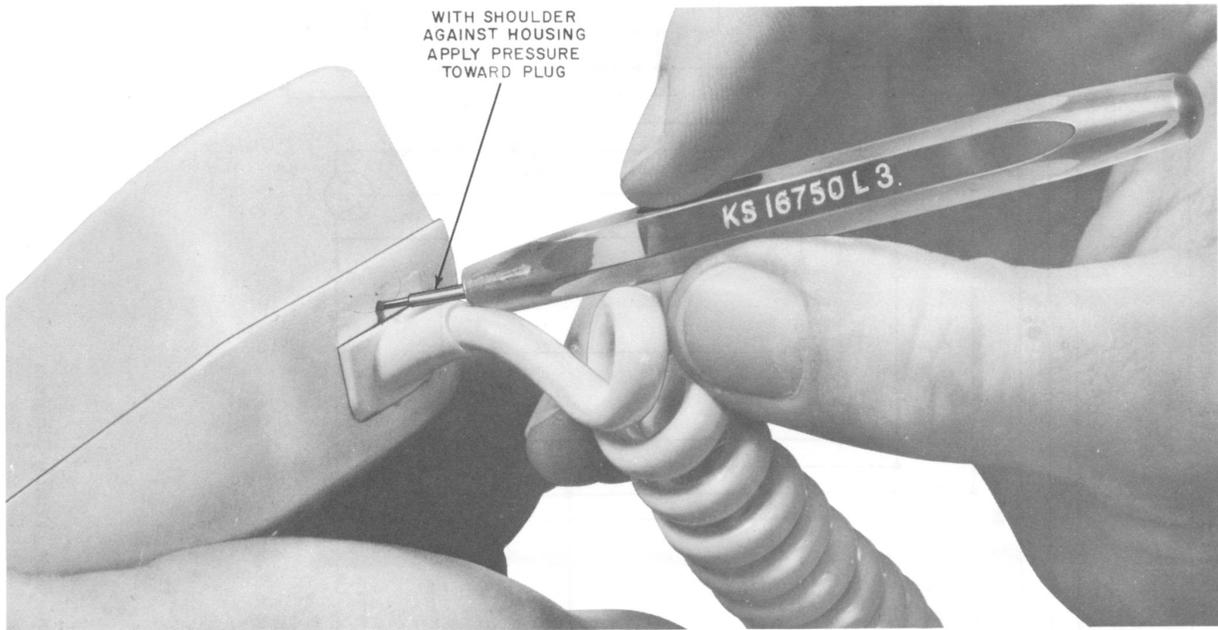

Fig. 12—Removing Cord From TRIMLINE Hand Telephone Set
5.06 To replace a plug ended handset cord (Fig. 12) or mounting cord (Fig. 13) use a KS-16750 type releaser. Insert tool in space provided and apply pressure against spring clip toward body of plug. When spring clip has been depressed pull plug out of jack.